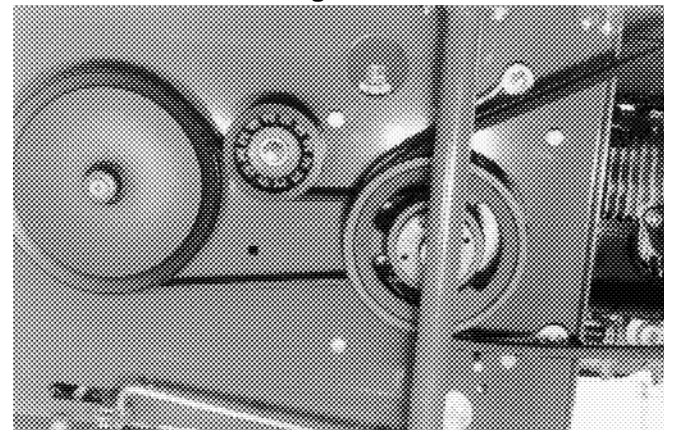

**Figure 8**
- e. (48" ONLY) Loosen the idler pull rod which holds the idler pulley tight against the short blade drive belt. (Item K, Figure 8.)